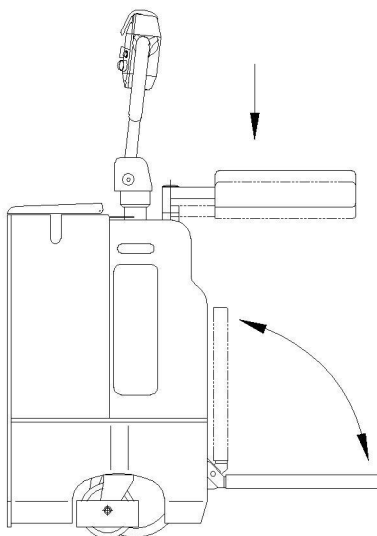

Figure5
4.1.1 All operation functions are fixed on the operating handle. Figure 5 indicates their positions and functions.
4.3.2 When moving, operating handle should be set at the middle position (between the angle range of 45° ,see Figure 5).When the handle is at a upper or low position, the stacker is braked and would not move.